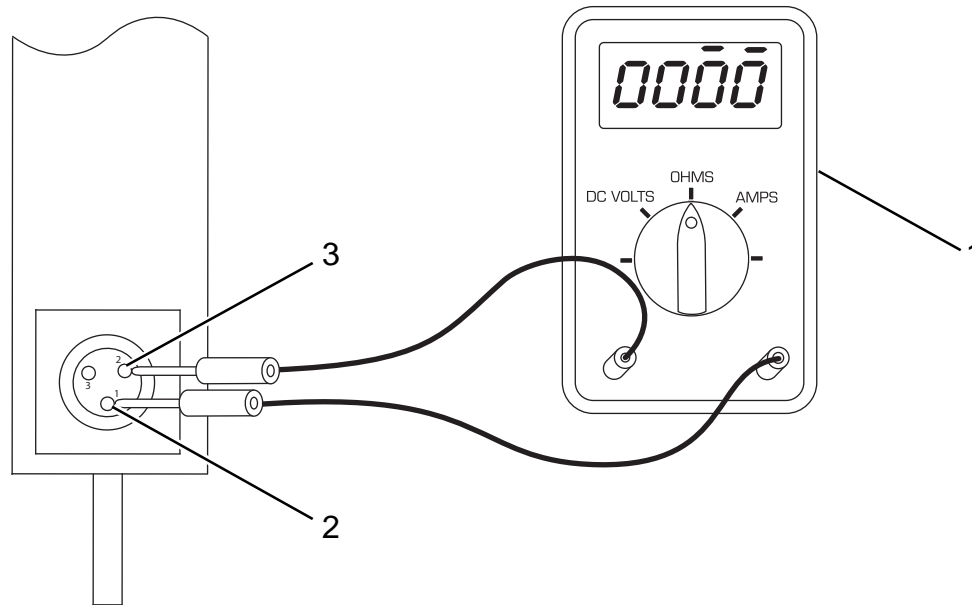

Figure 30
- Using a multimeter (**Figure 30, 1**), check the OHM resistance across "Pin 1" (**Figure 30, 2**) and "Pin 2" (**Figure 30, 3**) of the connector at the base of the linear sensor. The multimeter should read between 14500 and 16500 OHMS with the linear sensor extended.
- Using a multimeter (**Figure 30, 1**), check the OHM resistance across "Pin 1" (**Figure 30, 2**) of linear sensor connector and "Pin B" (**Figure 30, 3**) of the Weatherpak connector. The multimeter should read 0 OHMS. If harness has a short, the multimeter will show an open circuit.